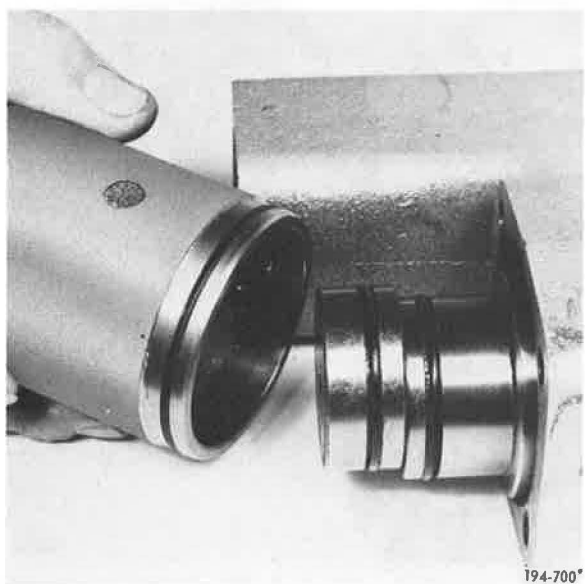

Figure 180. Removing Shift Cylinder
12. Remove Hi/Direct shift cylinder from air shift cover. See Figure 180.